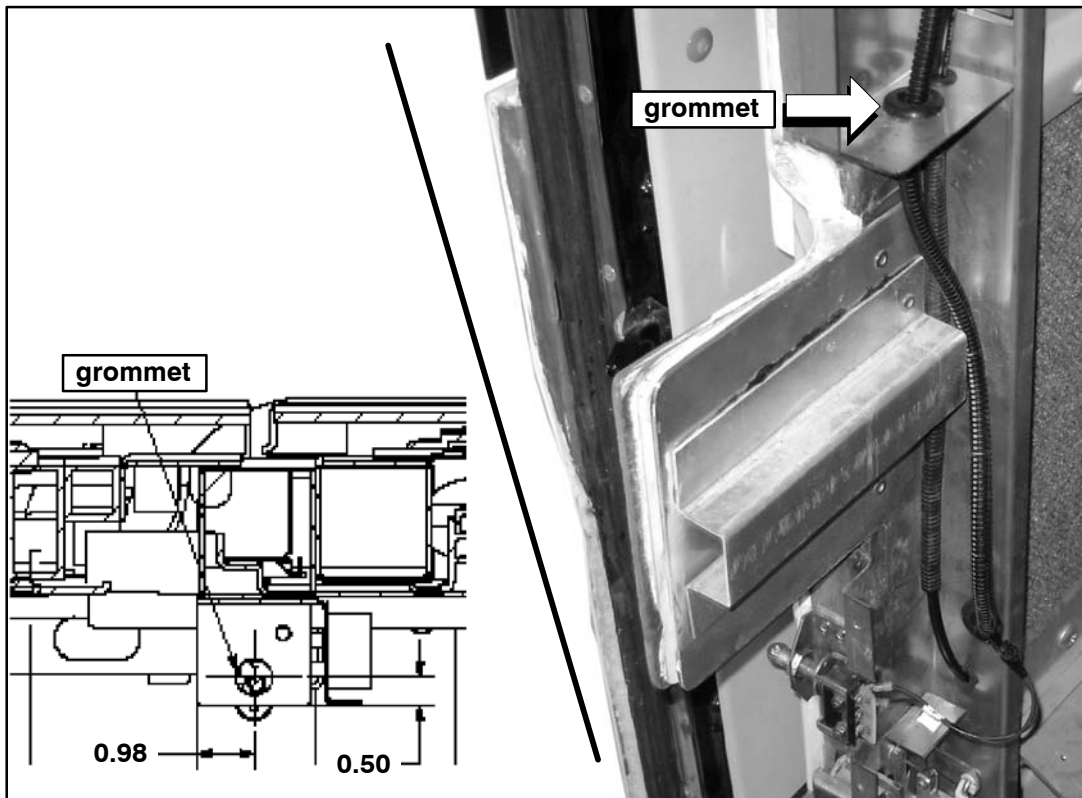

Figure 20.
23. Using a 0.62 inch drill bit, drill a hole as per dimensions shown in Figure 20. Install grommet, p/n 19-12-4, in drilled hole (refer to Figure 20).